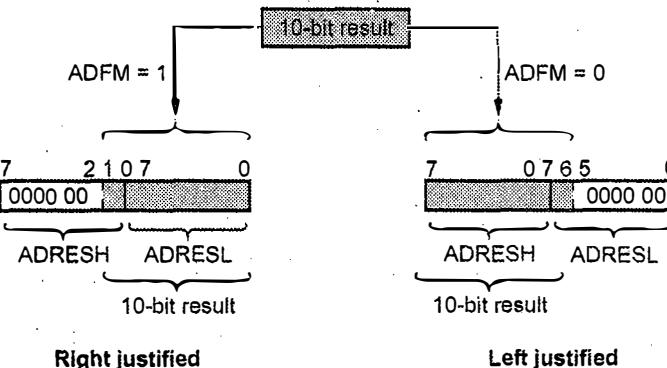

Fig. Q.27.1 ADC result register
- Result registers are shown in Fig. Q.27.1